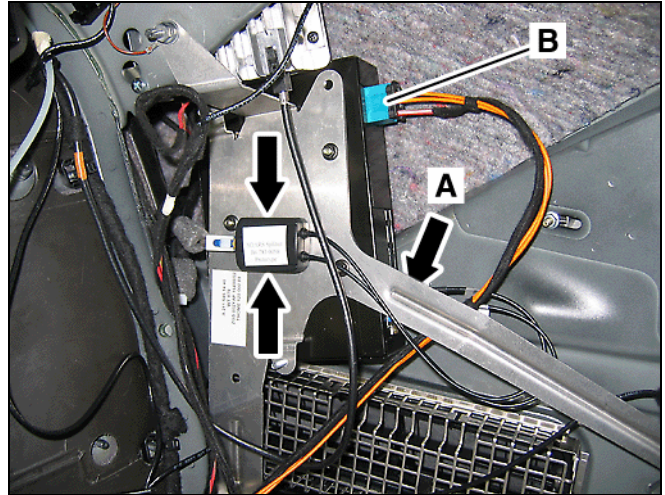

Figure 14
10. Peel off the protective backing from the adhesive side of the SDARS splitter and affix it to the face of the bracket for the SDARS control module (Arrows, Figure 14).
11. Connect the SDARS antenna splitter leads to the like-color jacks on the SDARS control module (A, Figure 14).
12. Connect the SDARS power supply/MOST connector (B, Figure 14) to the SDARS control module.